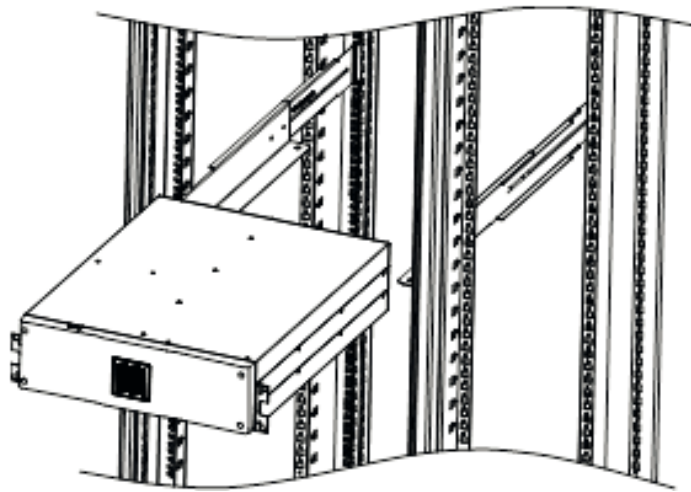

Figure 1: Rack mount installation
2. Slide the cabinet into the rack as shown in Figure 1.